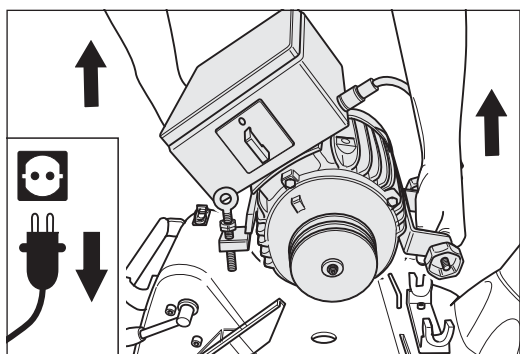

Fig. 31 Lift the motor out of the machine.
- 9 Lift the motor out of the machine (Fig. 31) and secure it during transport against slipping and damage!